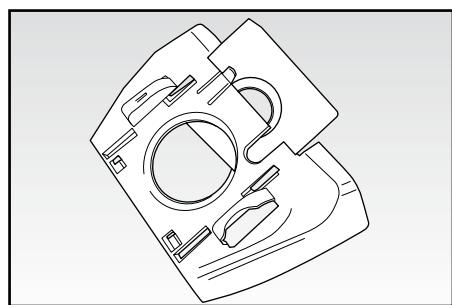

Fig. 9
- Take out the bag by sliding the stiff section along the apposite guides of the support (FIG. 9).